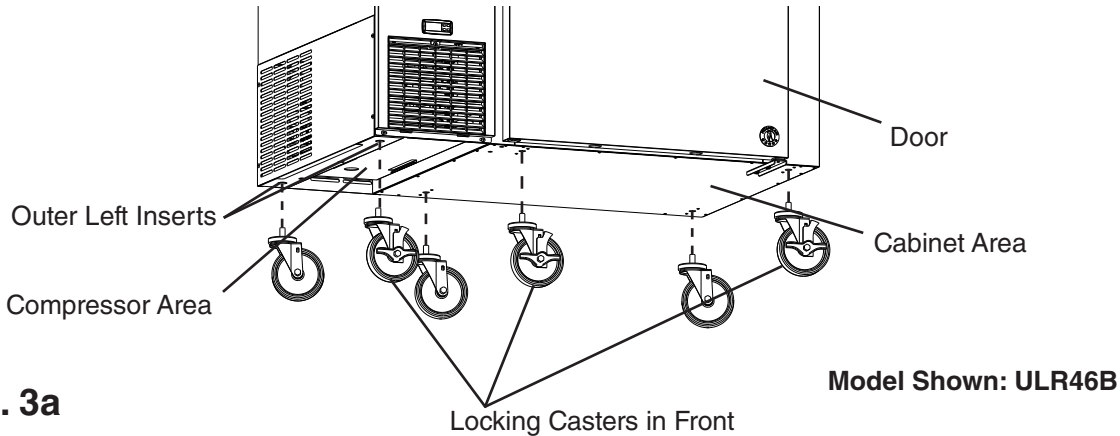

**Fig. 2**
2) Remove the 2 bolts securing the appliance to the pallet, then remove the appliance from the pallet. Block the appliance securely at a height of 8" (20 cm) off the floor. Place the blocks at the inside area next to the caster holes. See Fig. 2.